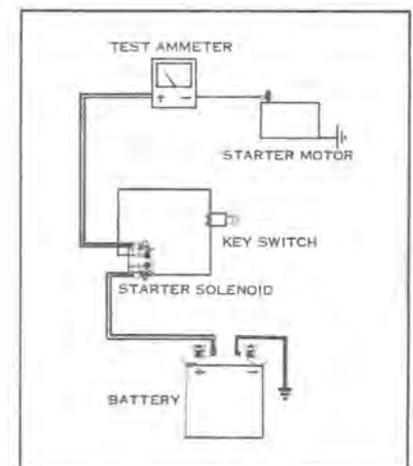

Figure 7-36
- Ground spark plug high tension leads so that engine can be cranked without firing. Place clamp-on DC ammeter capable of reading at least 200 amperes around starter motor lead (see Figure 7-36).